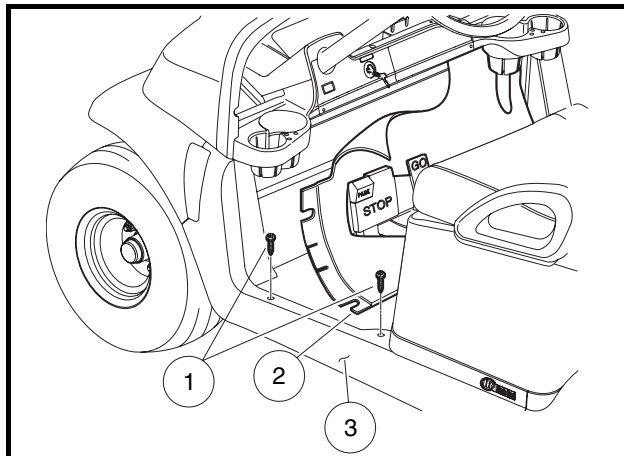
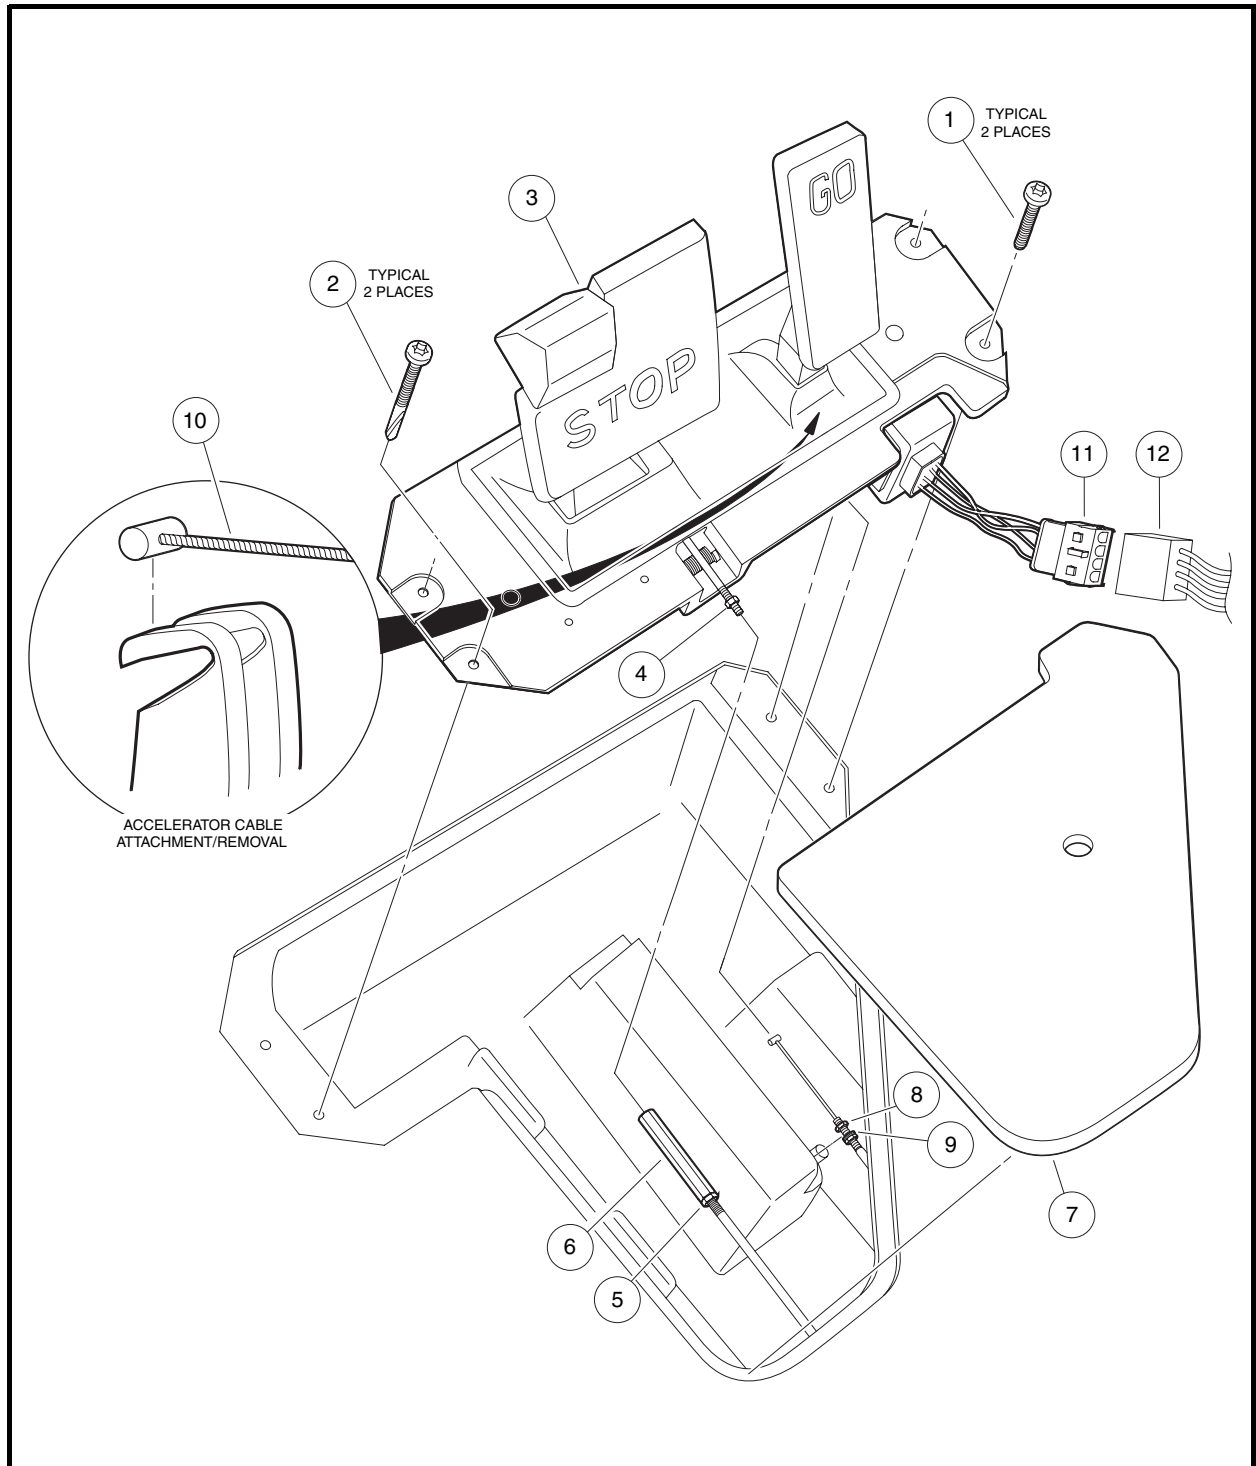

Figure 5-1 Pedal Group Access
Figure 5-2 Pedal Group
2. Remove screws (1). Pull floor mat retainer (3) away from the vehicle (**Figure 5-1, Page 5-1**).
3. Pull floor mat (2) over the pedal group to gain access to the pedal group hardware.
4. Lift off cover plate (7) (**Figure 5-2, Page 5-2**).
5. Loosen jam nuts (4 and 5) on each side of turnbuckle (6).
6. Nut (4) has a left-hand thread.
2. Insert the end of the accelerator cable (10) into position on the pedal group (**Figure 5-2, Page 5-2**).
3. Connect the wire harness (12) to the GCOR (11) (**Figure 5-2, Page 5-2**).
10. Place floor cover plate (7) over the floor opening (**Figure 5-2, Page 5-2**).
11. Reinstall the floor mat (2) over the pedal group. Make sure tabs on floor mat sides are beneath the sill (3). Tighten screws (1) to 53 in-lb (6 N·m) (**Figure 5-1, Page 5-1**).